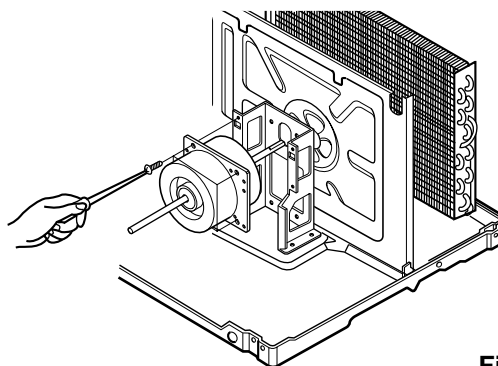

Figure 28
7. Remove the 2 or 4 screws that fasten the motor from the mount motor. (See Figure 28)
9. Re-install the components by referring to the removal procedure, above. (See Figure 28)